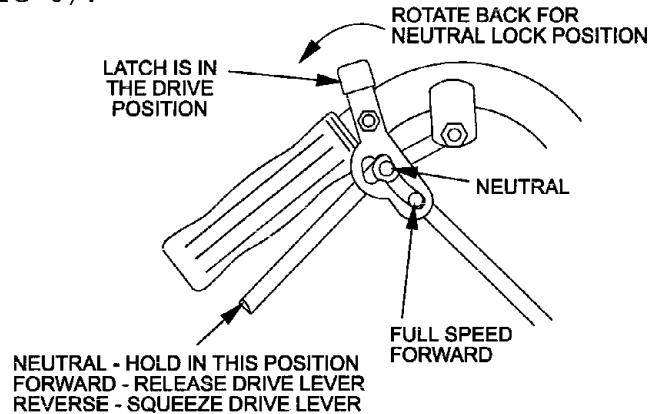

FIG. 6
- 4.1.3 Drive Levers: Located on each side of the upper handle assembly directly below the handle grips (See Figure 6). These levers individually control the speed and direction of each drive wheel. When the speed control lever is moved out of the neutral position and the lock latches are moved into the drive position, as shown in Figure 6, and the drive levers are released, the drive wheels are engaged in the forward direction.
- 4.1.4 **Neutral Lock Latch:** Located directly above the drive levers. These latches allow the operator to lock the drive levers in a "neutral" position where neither of the drive wheels are engaged in either a forward or reverse direction (See Figure 6).
(Do Not squeeze the drive levers all the way back as this will cause the drive wheels to go into full reverse direction) Place thumbs on the upper portion of the neutral lock latches and move them to the rear. Release drive levers (See Figure 6).